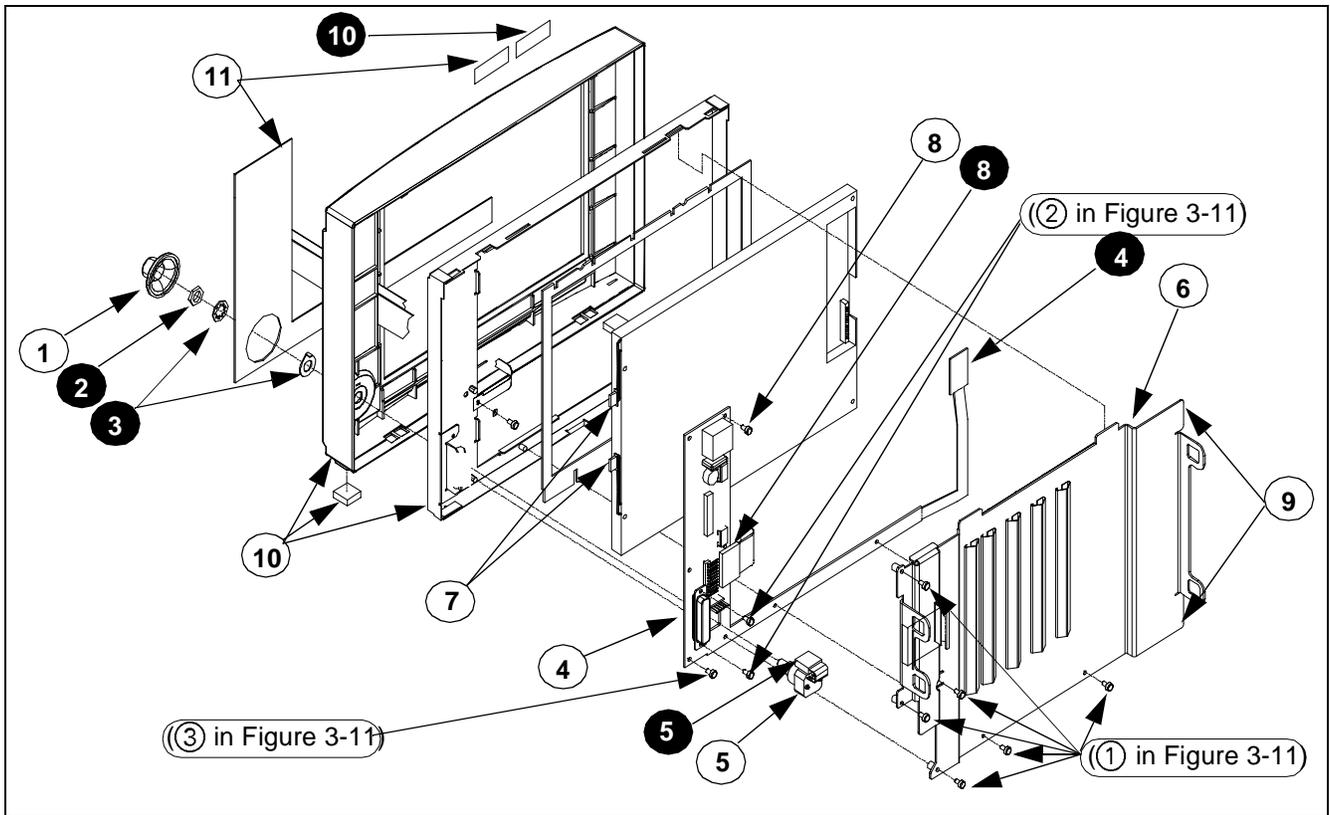
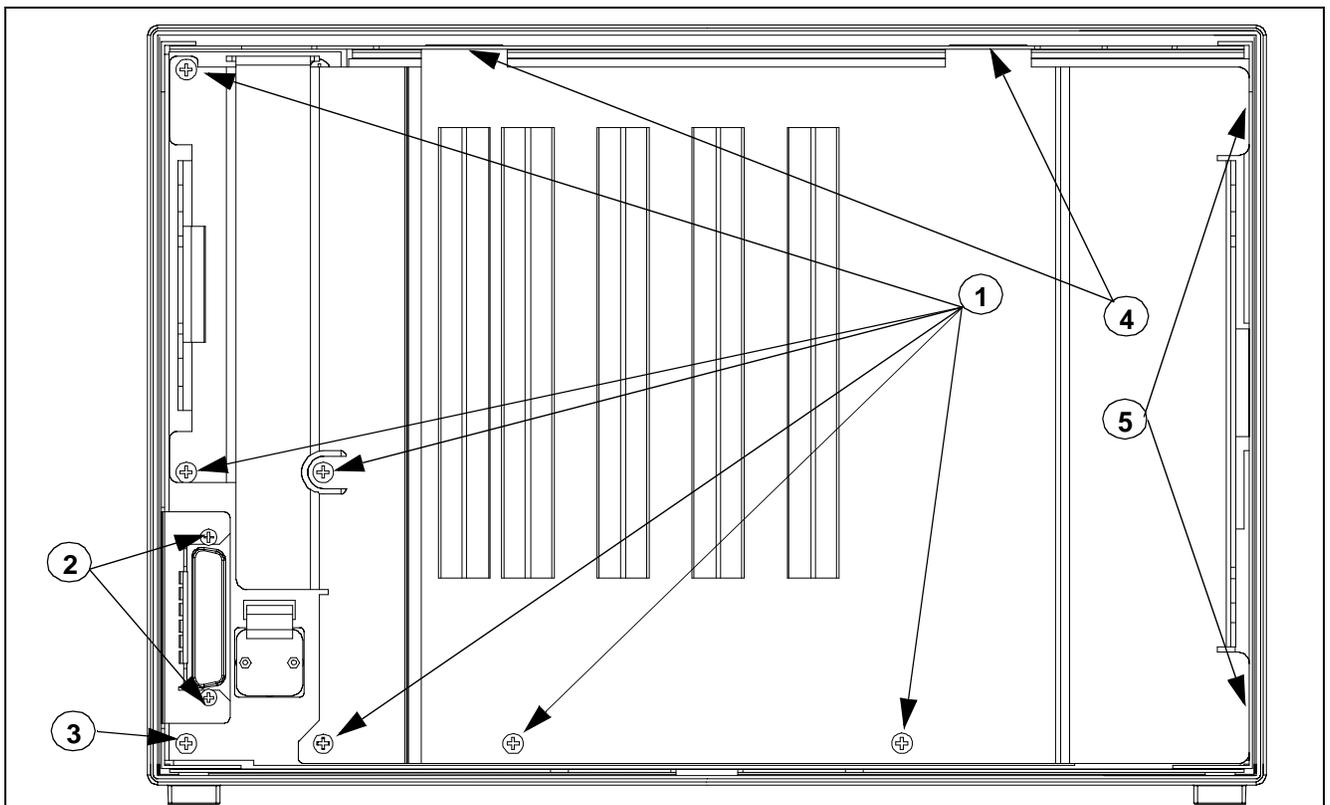
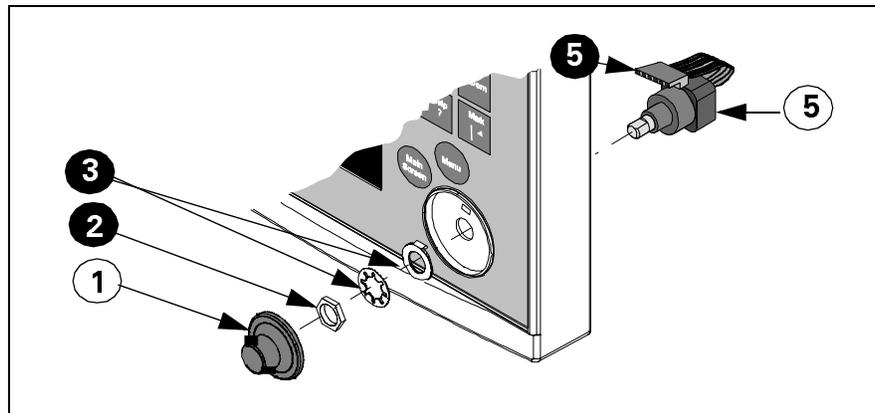

Figure 3-10 Front Bezel Subassembly Components. Note: Numbers in white circles call out replaceable parts. Numbers in black circles are referenced in text.
Figure 3-11 Front Bezel Subassembly - Interior View
Figure 3-12 Optical Encoder Subassembly. See Note in Figure 3-10 caption.
- Front Bezel PCB Subassembly (④ in Figure 3-10 on page 51)
- Optical Encoder Subassembly (①, ②, ③, and ⑤ in Figure 3-10 on page 51, also see Figure 3-12 on page 52)
- Front Bezel/Lens Subassembly (⑩ in Figure 3-10 on page 51, includes bezel w/ lens, display subassembly mounting frame, metal logo, and feet)
- 1) With front bezel subassembly laying face down on a smooth clean surface, remove and save six securing screws (see ① in Figure 3-11 on page 51) from retainer plate.
- 2) Move retainer plate slightly left to slide tabs on right hand side of plate (⑨ in Figure 3-10 and ⑤ in Figure 3-11 on page 51) out of tab slots in side of front bezel frame.
- 3) Lift bottom edge of retainer plate and slide plate out of tab slots (④ in Figure 3-11 on page 51) in top of front bezel frame.
- 5) Remove rotary knob (① in Figure 3-10 on page 51 and in Figure 3-12.
- 6) Unplug optical encoder ribbon cable connector (5 in Figure 3-10 on page 51 and Figure 3-12 on page 52) from Front Bezel PCB.
- 7) Refer to Figure 3-10 or Figure 3-12. Unscrew nut (2) securing optical encoder shaft in position in front bezel, and remove optical encoder subassembly (5) through back of panel. Save nut, and lock washer / positioning washer combination (3) for use in reassembly.
- 8) Refer to Figure 3-10. Unplug membrane switch ribbon cable connector (8) and display backlight connectors (7) from Front Bezel PCB, and display screenflex cable connector (4) from display screen subassembly PC board.
- 9) Slide small screwdriver under tab near bottom on right hand side of display subassembly, and carefully lift display subassembly (4) in Figure 3-10) out of front bezel frame. Set subassembly aside on a **clean** flat surface for use in reassembly.
- 10) Remove and save two screws ((2) in Figure 3-11 on page 51) securing Front Bezel PC Board interface connector to mounting tabs on front bezel frame.
- 11) Remove and save two remaining screws ((3) in Figure 3-11 and (8) in Figure 3-10) securing Front Bezel PC Board to front bezel frame.
- 6) Refer to Figure 3-10 on page 51. Plug display screen flex cable connector **4** into display screen subassembly PC board, and display backlight connectors **7** and membrane switch ribbon cable connector **8** into Front Bezel PC Board.
- 11) Slide retainer plate tabs into tab slots (**4** in Figure 3-11 on page 51) in top of front bezel frame.
The backlight fluorescent lamps are located inside the display screen subassembly (⑦ in Figure 3-10 on page 51). Replace lamps as follows:
- 1) With front bezel subassembly separated from rear housing and laying face down on a smooth clean surface, remove and save six screws (① in Figure 3-11 on page 51) from retainer plate (⑥ in Figure 3-10).
- 3) Lift bottom edge of retainer plate and slide plate out of tab slots (④ in Figure 3-11) in top of front bezel frame, and set aside for reassembly.
- 4) Unplug display screen flex cable connector (④ in Figure 3-10) from display screen subassembly PC board. Note pad that keeps connector in place.
A replacement Front Bezel/Lens Subassembly ships with an installed lens, mounting frame, Siemens Metal Logo, and feet. The Language Label Set which includes SC 7000 and SC 9000XL Monitor Model Labels (see ⑩ in Figure 3-10 on page 51) must be ordered separately,